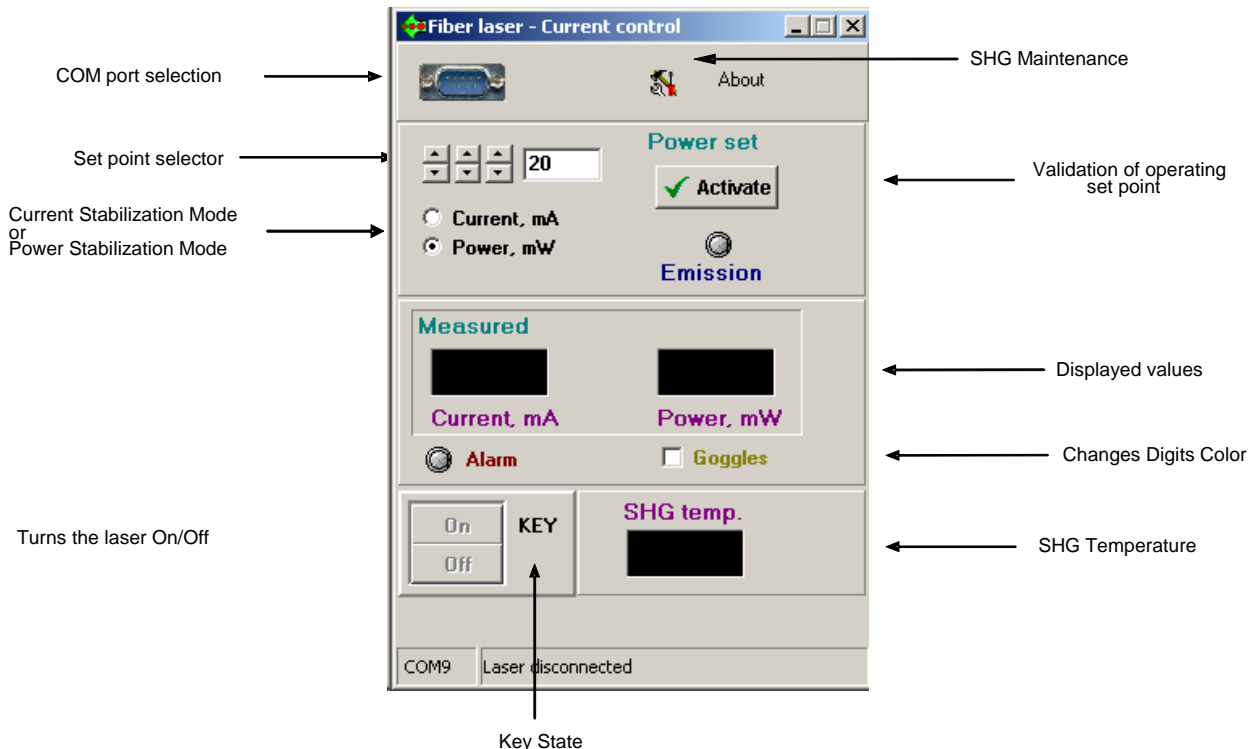

Fig. 2 GUI-VFL graphical user interface
- ◆ Run the GUI-VFL software (shown in Fig. 2).